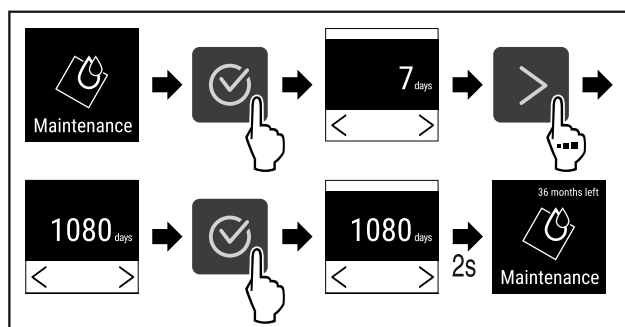

Fig. 99
- ▶ Complete steps (see Fig. 99).